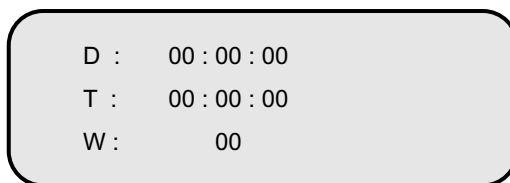

Fig. 24 Time Setting
Press numerical key 3 in the main menu to enter the interface of time setting (Fig. 24). In the following interface, you should input a number from 01 to 07 on the third line, the number means Monday to Sunday. For example, if you want to set Thursday, please input 04. After you input the current date and time, information that prompts you the programming is over appears. Press **Enter** key to confirm. After 4 seconds for the instrument saving the time set and then return to the main menu automatically. The setting of time is over.